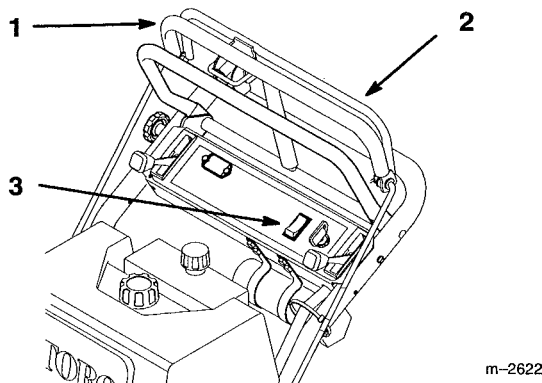

Figure 12
1. Release the upper control bar to stop the machine (Fig. 12).
2. To engage blade, squeeze blade control bail against upper control bar (Fig. 12).
1. Releasing blade control bail to disengage blades (Fig. 12).
2. Or push the blade control switch (PTO) to the "OFF" position (Fig. 12).